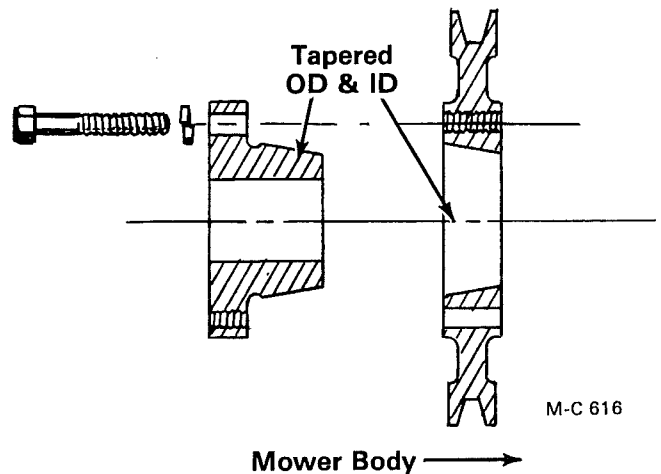

Figure 30
5. Place the bushing into the pulley from the front so that the bushing flange is to the outside, see Figure 30. The bushing and the